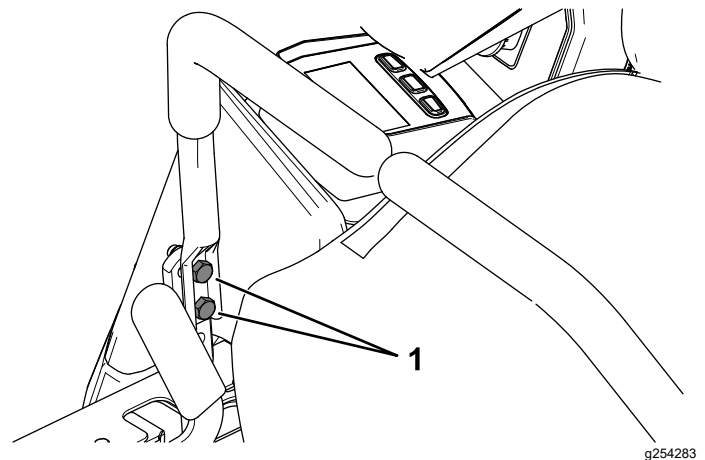

Figure 54
10. If alignment is needed, loosen the 2 motion-control lever mounting bolts on the misaligned side (Figure 54).
12. Tighten the 2 motion-control lever mounting bolts (Figure 54).